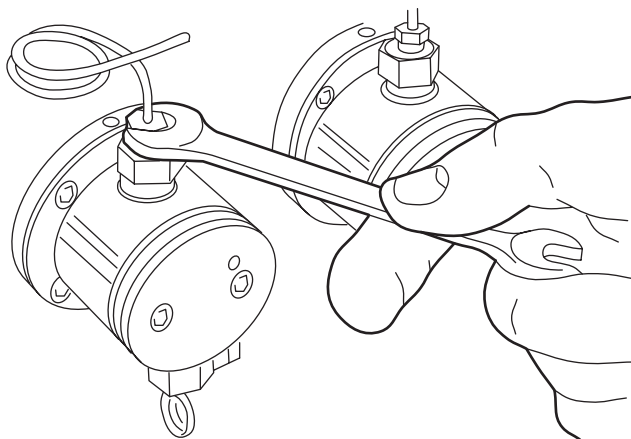

Figure 4-9 Disconnecting the Outlet Tubing
6. Use the 5/16-inch wrench to disconnect the tubing from the inlet and outlet check valves of the pump head (see Figure 4-9). If you notice that a check valve turns while you are disconnecting the tubing, use the 1/2-inch wrench to hold the check valve in place.